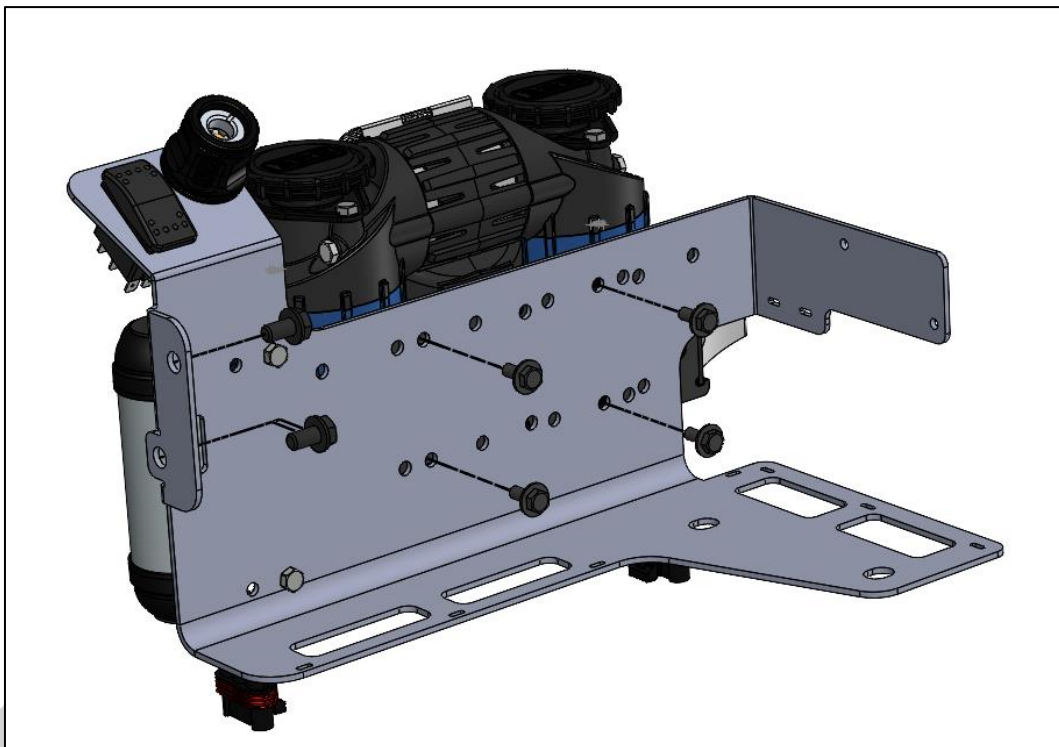

Figure 10. Brushless Twin Compressor bracket pre-assembly front view
- ☐ Secure the compressor to the bracket using the included M6 fasteners and the hole pattern shown in Figure 10.